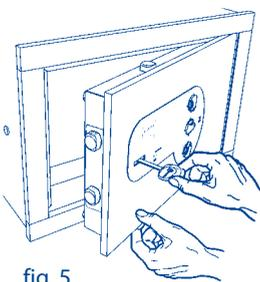

fig. 5
- Use the key or the knob to bring the bolts out of their housings (fig. 5) as if to close the safe.